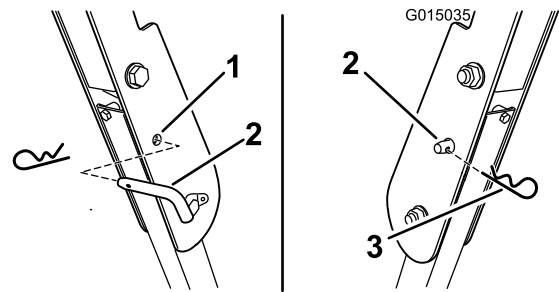

Figure 11
4. To lower the roll bar, remove the hair cotter pin and remove the locking pin (Figure 11).
3. Install the locking pins. Secure the pins by installing the hair cotter pin (Figure 11).